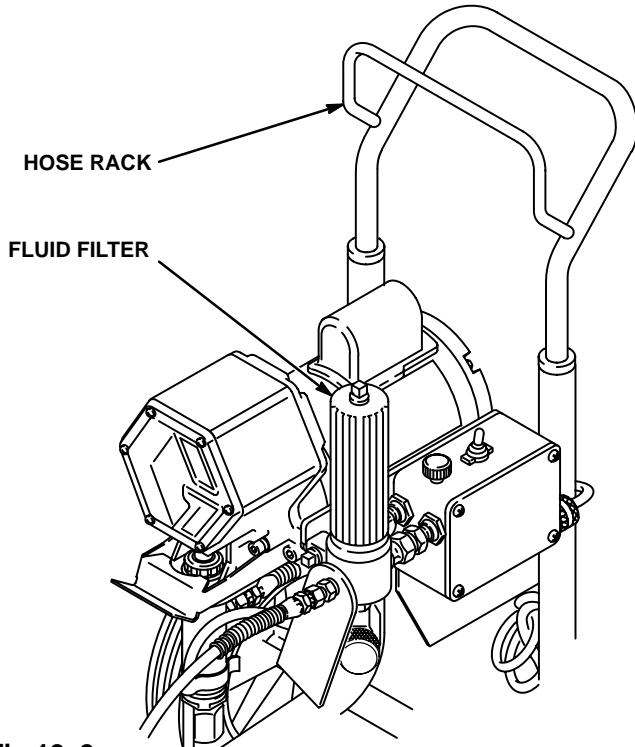

Fig 12-2
- Coil the hose** and hang it on the cart's hose rack when storing it, even for overnight, to help protect the hose from kinking, abrasion, coupling damage, etc. See Fig 12-2.